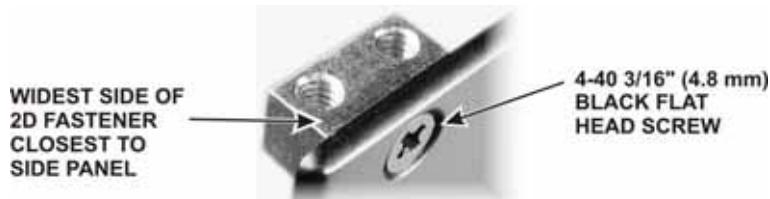

Figure 17. Installing Left Side Panel 2D Fastener.
- Mount a 2D fastener at the top back corner of the left side panel (the one you just installed) with a 4-40 3/16" (4.8 mm) black flat head screw as shown in Figure 17. Do **not** use washers. Be sure the 2D fastener is oriented correctly as shown in the figure.